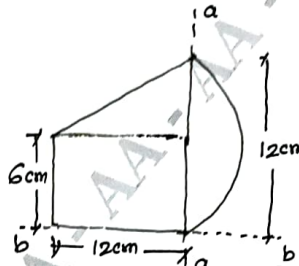

Fig.Q1(b)
- b. Locate the centroid for the composite section shown in Fig.Q1(b) about the given axis a – a and b – b. (12 Marks)